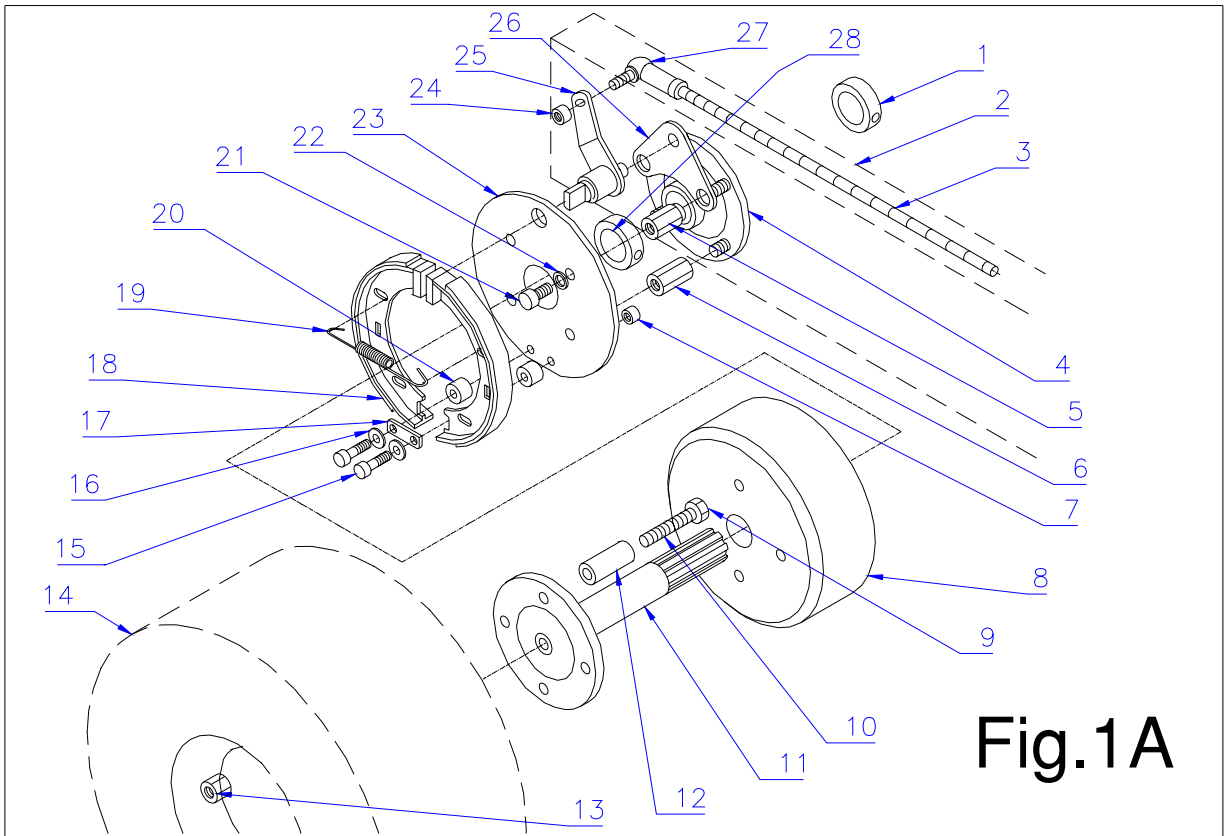

Fig.1A
2. The rear wheels with brakes can be assembled, as follows, see Fig 1A: